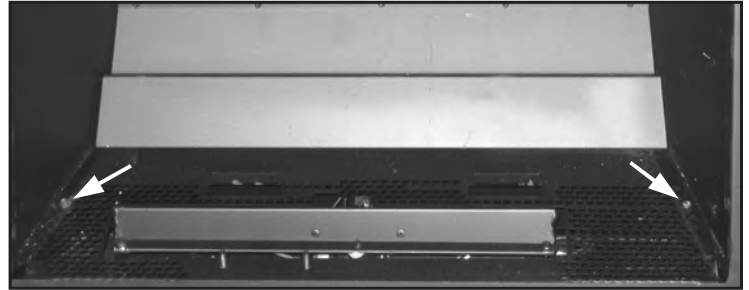
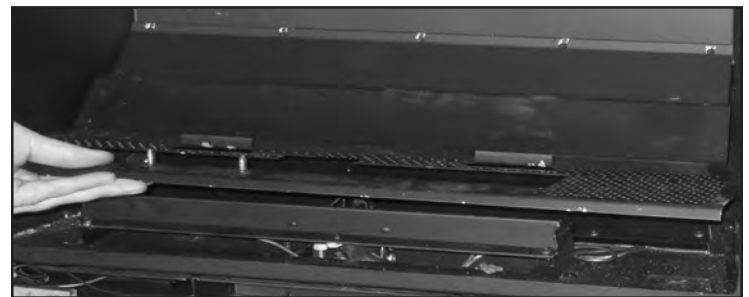

Figure 10: Screws Holding Burner Tray in Place.
Figure 11: Removing Burner Tray.
3. Using a T-20 screwdriver remove the two (2) screws that hold the burner tray in place (pointed out in Figure 10). Pick up the burner tray at the front (see Figure 11) then pull it out of the firebox.